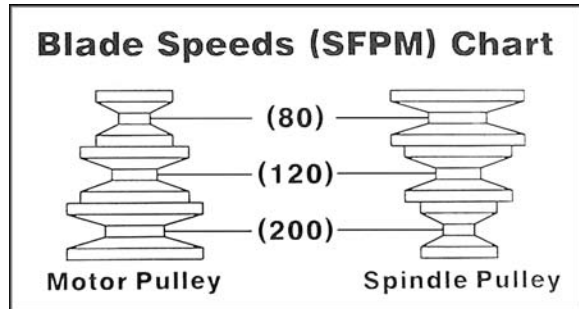

Figure 16
3. Loosen the knob (see A, Figure 3) and lift up on the motor. Move the belt to the desired pulley grooves. A chart is affixed to the inside of the belt guard showing the positions for the three speeds, 80, 120 and 200 surface feet per minute (SFPM). This chart is also shown in Figure 16.